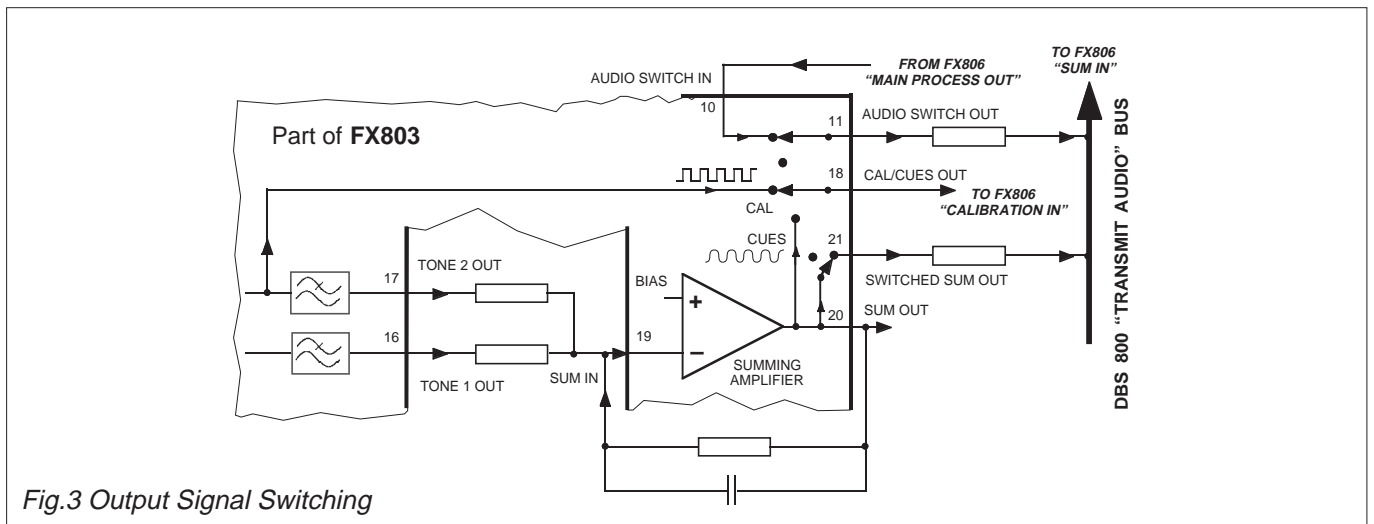

Fig.3 Output Signal Switching
3. Resistors marked with an asterisk (\*) are System Components, calculated to operate in a system with other DBS 800 microcircuits. Figure 3 shows in detail, these components used in the System signal paths. R3, R4, R5, C5 – Tone mixing components to provide a 3dB tone-differential (twist) when used in a DTMF configuration. Single tone output levels are set independently or by the FX806 Modulator Drivers. R7 – Modulation level and matching for inputs to the FX806.
See the Signal Switching diagram (Figure 3) and DBS 800 Document for application examples.
To break the FX803 drive to the FX806 PLMR Audio Processor (see Figure 3, Signal Switching).